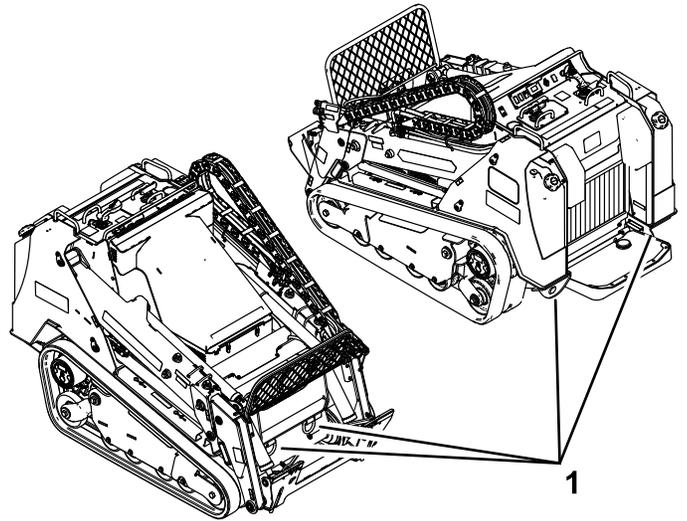

Figure 35
6. Tow the machine as required using the tie-down locations (see Figure 35).
8. Use the metal tie-down loops on the machine to securely fasten the machine to the trailer or truck with straps, chains, cable, or ropes (Figure 35). Refer to local regulations for tie-down requirements.